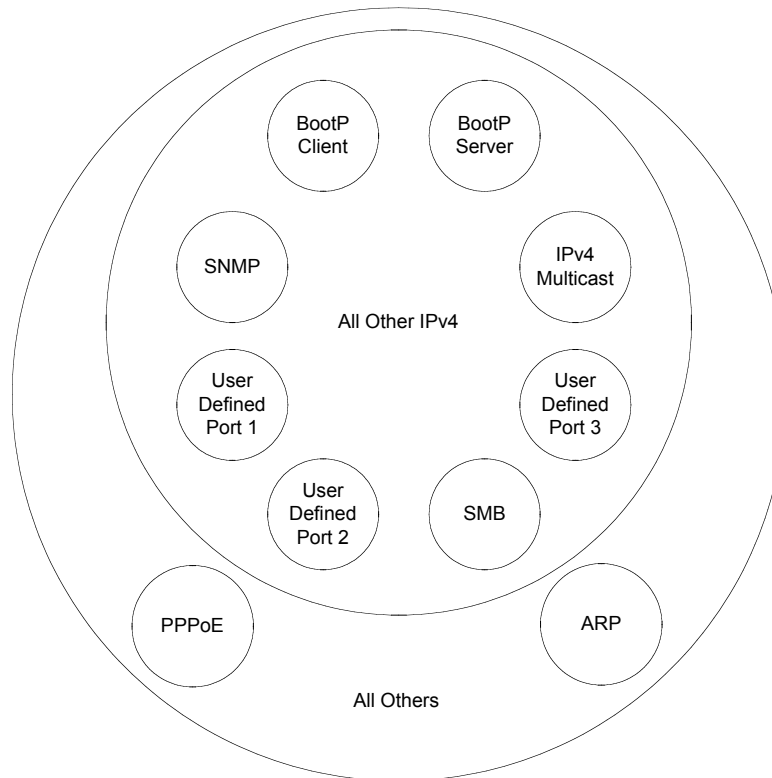

Figure 141: Categorical protocol filtering
- All other IPv4 traffic (see Figure 141)
- o All others (see Figure 141)